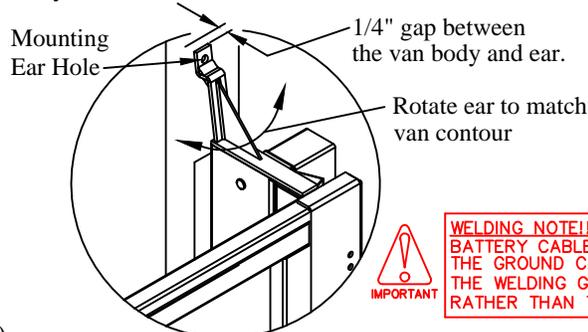

Figure 4: P-200-92 mounting ear position.
3. **Position** the two mounting ears on top of the uprights (Figure 4).
4. **Rotate** the ears to match the contour of the van (Figure 4). Leave a 1/4" gap between each ear and the van body for the nylon washer.
6. **Weld** the mounting ears securely to the top of the uprights. See welding note by Figure 4.
8. **Drill** two (2) 1/2" diameter holes through the van body using the holes in the mounting ears as a guide (Figure 4).